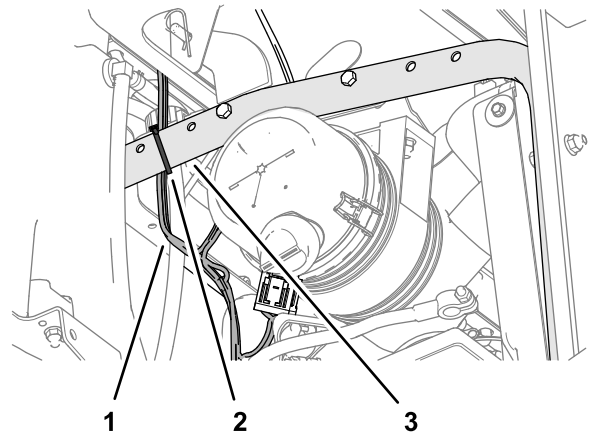

Figure 19
3. Above the engine, secure the power harness to the radiator support tube as shown in Figure 19.